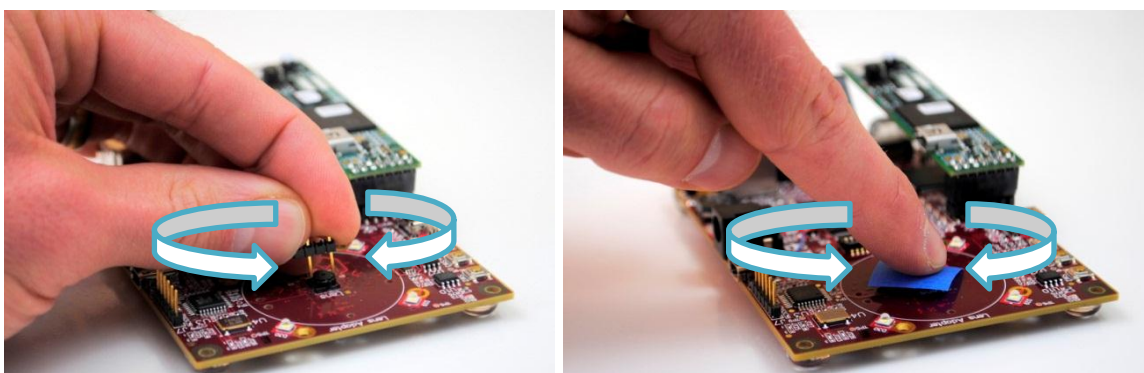

Figure 9 - Focus with lens tool or adhesive tape
1. Use the lens tool that is provided with the kit, taking care not to scratch the lens with the metal pins (**Figure 9**). Alternatively use a piece of adhesive tape commonly found in an office supply closet. Place the tape on your index finger; push it against the lens, and twist.